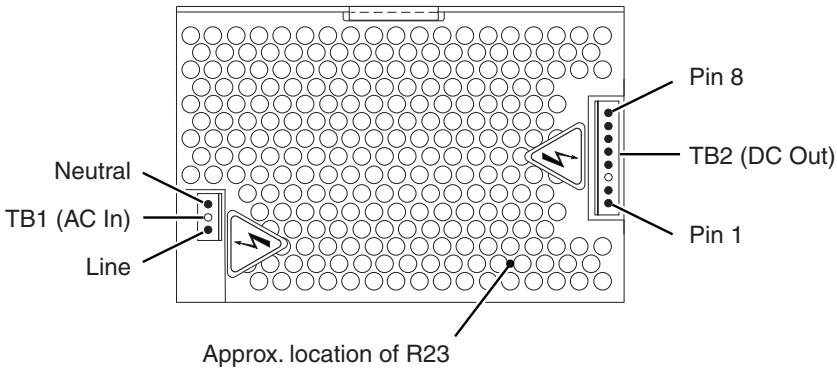

Figure 2-10. A4 DC Power Supply Test-Point Locations
- 4 Connect the negative lead of a voltmeter to the chassis and measure each of the voltages listed in Table 2-3 on Power Supply connectors TB1 and TB2 (see Figure 2-10).